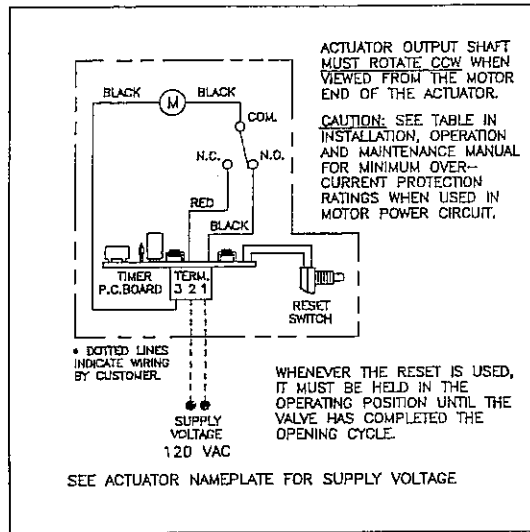
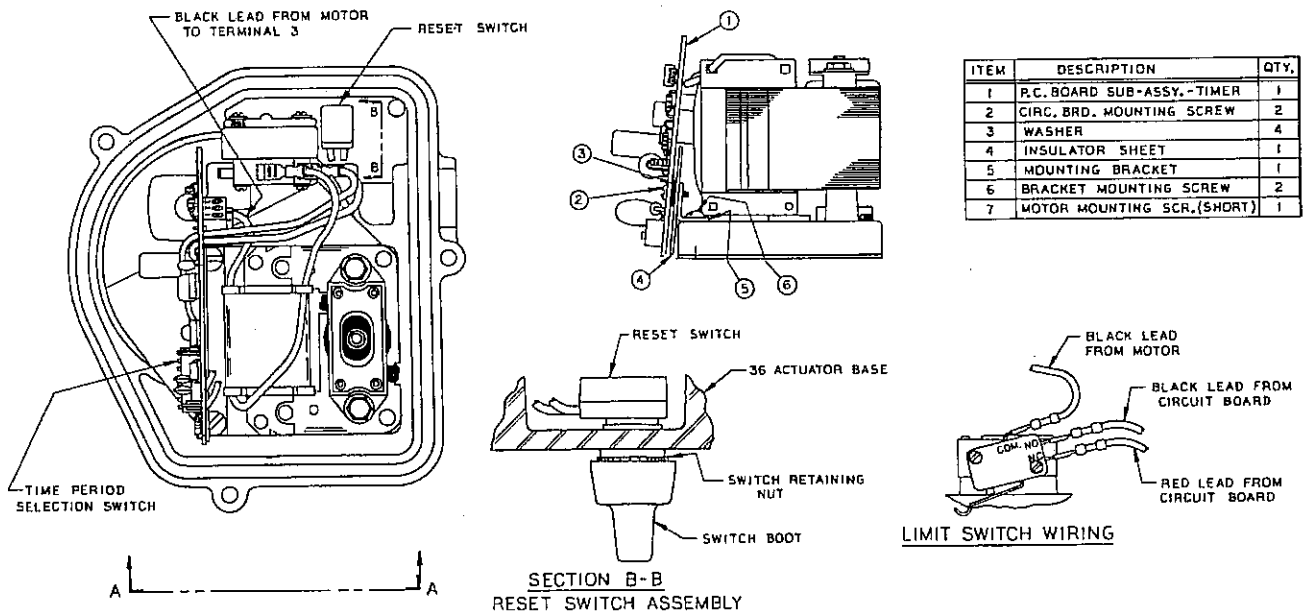

Figure 3
Figure 4
The "auto-sequence" timer is mounted into the actuator as shown in Figure 4. Field wiring connects to the terminal block as shown in the wiring diagram, Figure 3.
Valve opening time ("on" time) is powered through the circuit board's red wire and is connected to the limit switch's (NC) normally-closed contact. Valve closed time is powered through the circuit board's black wire and is connected to the limit switch's (NO) normally-open contact. (See Figures 3 & 4)